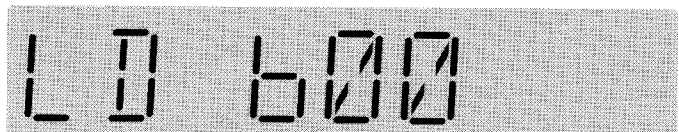

Figure 4-12 Typical Frame Size Display
Step 4: Use the **Select** pushbutton to enter the valid password. Once the password is accepted, the frame size will appear in the **Function Display** (Figure 4-12).